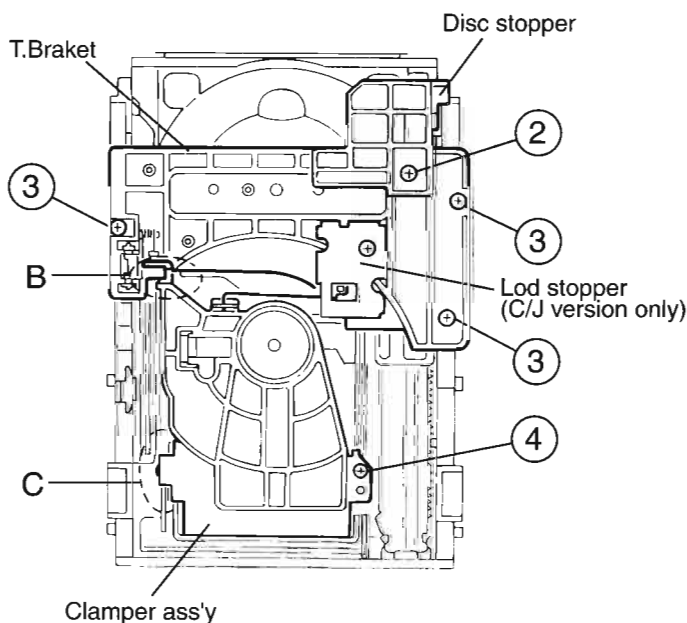

Fig.3
5. Remove the screw 2 retaining the Disc stopper (See Fig.3).
6. Remove the three screws 3 retaining the T.bracket (See Fig.3).
7. Remove the screws 4 retaining the clamer assembly (See Fig.3).